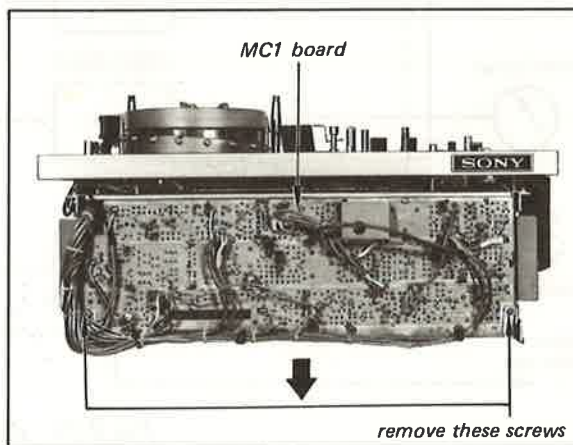

Fig. 3-3. MC1 board removal
1. Remove the two screws securing the MC1 board, as shown in Fig. 3-3.